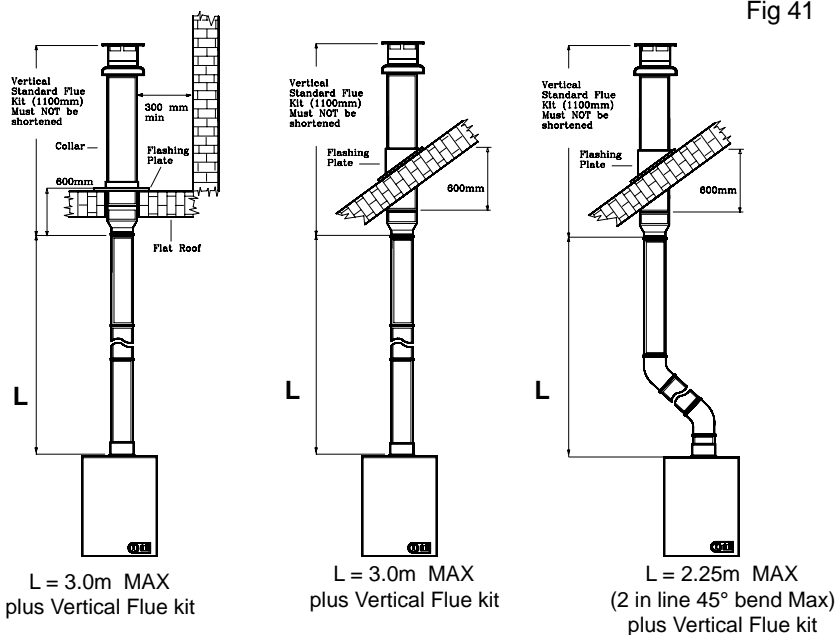
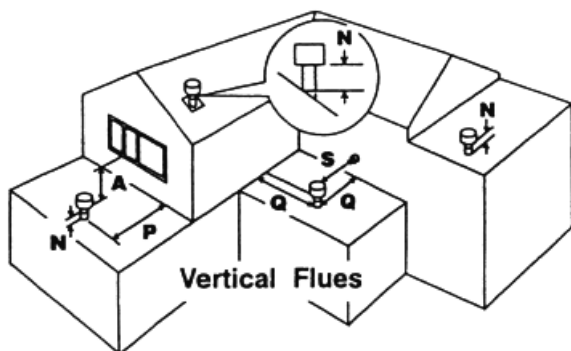

Fig 41
Fig 42
The vertical flue kit is intended for use where a horizontal flue outlet is not possible or desired. The vertical flue can be used either with a flat roof or a pitched roof (maximum pitch 60°). Where a straight vertical flue is not possible or desired, an offset vertical flue can be used in conjunction with a side horizontal flue extension piece and an inline 135°/90° flue bend (Fig 41).
- Ensure that the maximum permissible flue length is not exceeded (Fig .42).
Measure the vertical distance between the top of the flue (Fig.42) and the bottom of the flue terminal assembly (Fig.41).